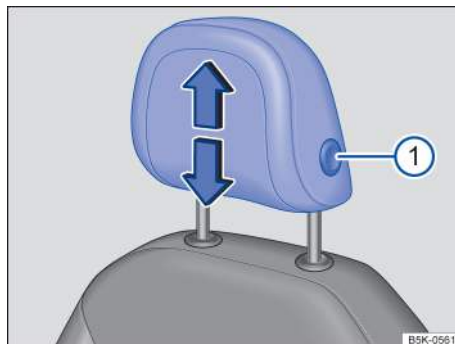
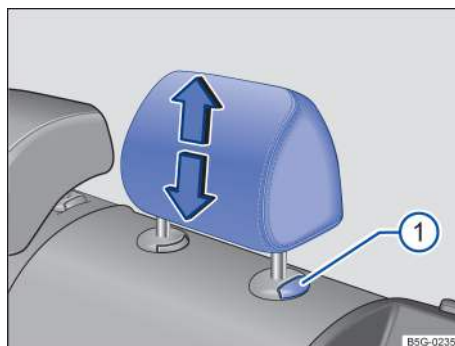

Fig. 70 Adjusting the front head restraints.
Fig. 71 Adjusting the rear head restraints.
- While pressing the button → fig. 70  or → fig. 71 , pull the head restraint up or push it down in the direction of the arrow →  in Introduction on page 108.